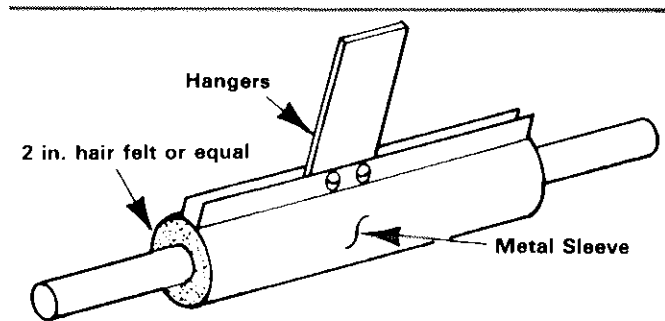

FIGURE 9
- 5 - Support refrigerant lines with an approved type of hangers to prevent line vibration from being transferred to the structure. Isolate lines where they pass through roofs, walls and floors or where they come into contact with ductwork (see figure 9). Table 3 lists the recommended hanger spacing.